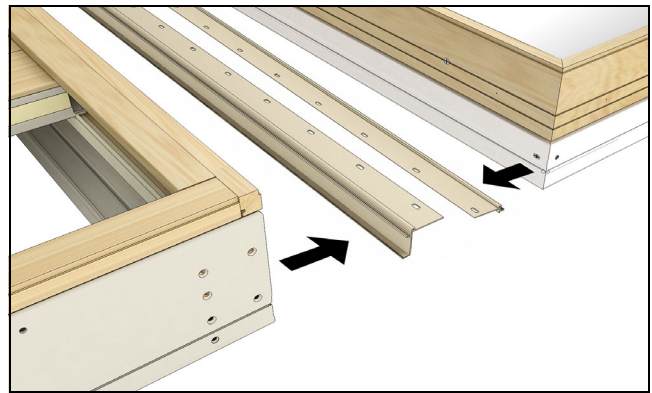

Figure 2
2. Lay frames on a flat surface in the desired mulling configuration (interior, wood side facing up). Remove nailing fin from the head jambs and sills that will be mulled together. See Figure 2.